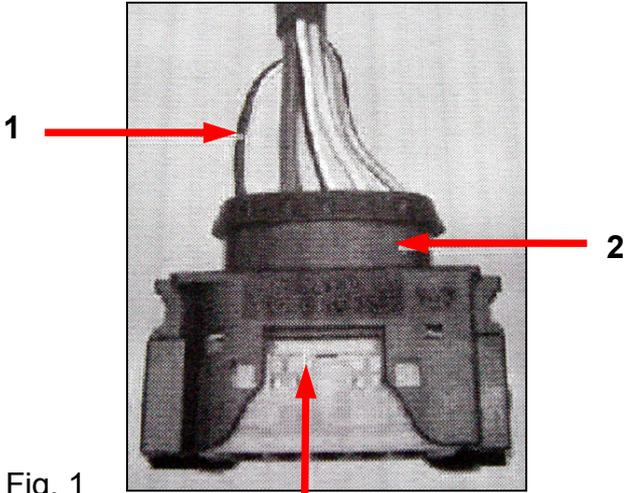

Fig. 1
- Using suitable tool, release the lock of the plug-contact of the supply cable (see Fig. 1, Item 1), and remove from the central plug (see Fig. 1, Item 2). Colours of the supply cable:
- **Caution!** In the case of some plugs, the fastening clamp for all contacts must be unlocked first (see Fig. 1, Item 3).